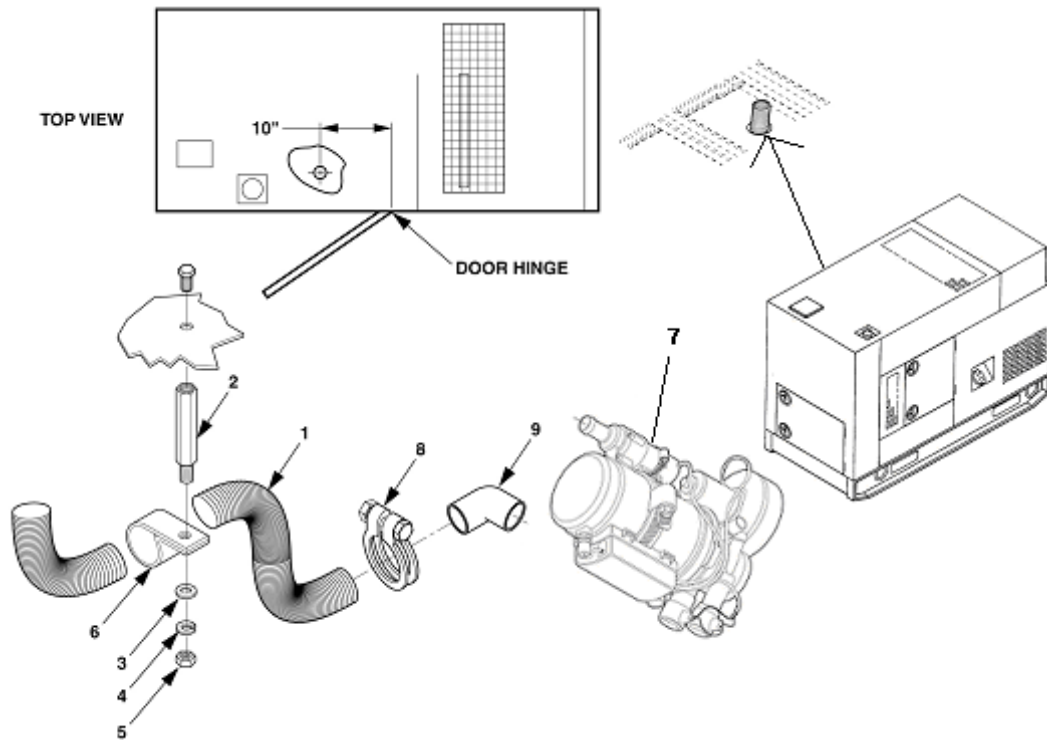

Figure 5-2. Exhaust Hose Assembly
5. Approximately 10" from inside of left door hinge, Figure 5-2, and 3" from left side panel, drill 1 7/16" diameter hole in exhaust duct floor.
6. Attach one end of exhaust hose (1), to exhaust elbow (9) with clamp (8). Apply 2 thick beads of RTV around exhaust port of heater and attach exhaust elbow (9) to heater (7). Move elbow in a position that doesn't interfere with anything in the line to the hole drilled in step 5.
7. Route exhaust hose (1) through the hole drilled in step 5 and turn hose down to exhaust duct floor. Using one of the existing screws that mount the air duct channel to the exhaust duct floor, attach spacer (2) to the existing screw that will allow the exhaust hose to be secured approximately in the middle. Using RTV provided in kit, apply RTV around hose and hole in exhaust duct floor to prevent movement. Secure exhaust hose (1) to spacer (2) using clamp (6), nut (5), lock washer (4), and washer (3).